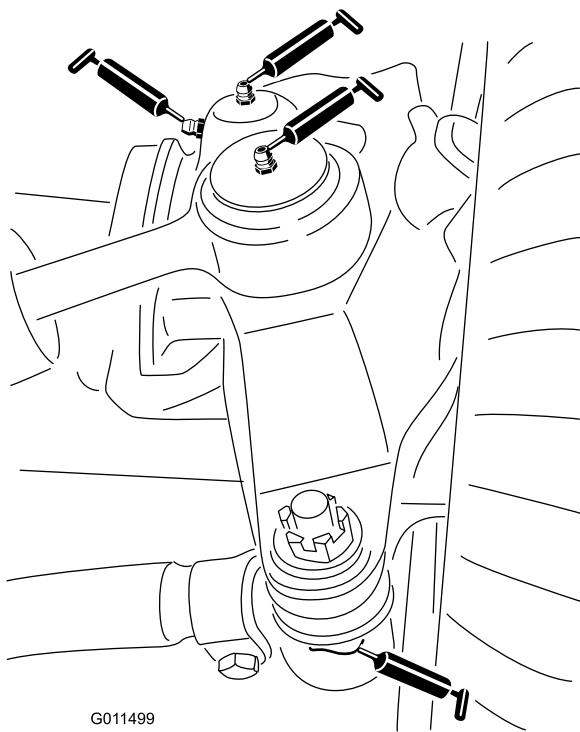

Figure 37
- 2 steering-cylinder-ball joints (Figure 37)
- 2 tie-rod-ball joints (Figure 37)
- 2 king-pin bushings (Figure 37).